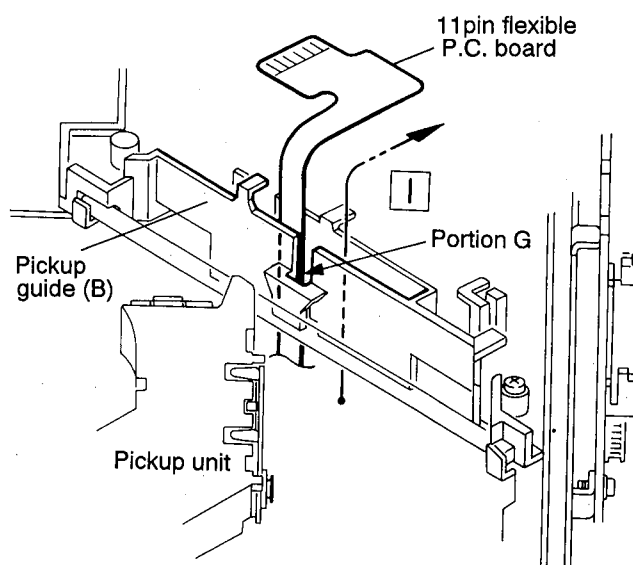

Fig. 4-24 (Back of CD mechanism)
1. In advance, pass the 11 pin flexible P.C. board toward the lower side of the pickup guide (B) (See Figs. 4-24 and 4-25).
● Setting of flexible P.C. board (11 and 4 pins) (See Figs. 4-24 ~ 4-31)
1. After turning the CD mechanism over, the #11 pin flexible P.C. board which has been passed in advance should be inserted to the hole at the portion G on the pickup guide (Step 1) (See Fig. 4-24).
2. After passing the 11 pin flexible P.C. board down to the pawl at the portion H on the pickup guide as shown in Figs. 4-24 ~ 4-26, set the flexible P.C. board according to the order from Step 2 → Step 3 → Step 4.